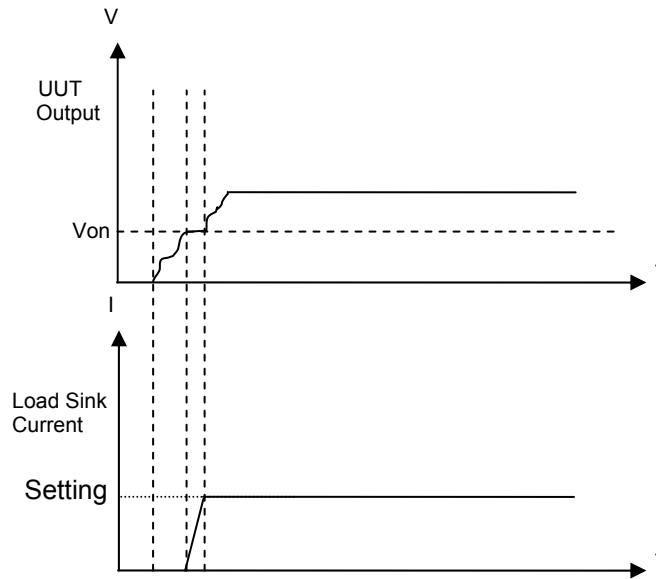

Figure 3-17 When Von Point is set to 0V with Protection
- (2) When it is “LOAD ON”, VON POINT is set to 0V and Von Protection is enabled, the DC Load starts loading when the external voltage exceeds the protection voltage. No overshoot will occur under this condition as Figure 3-17 shows.